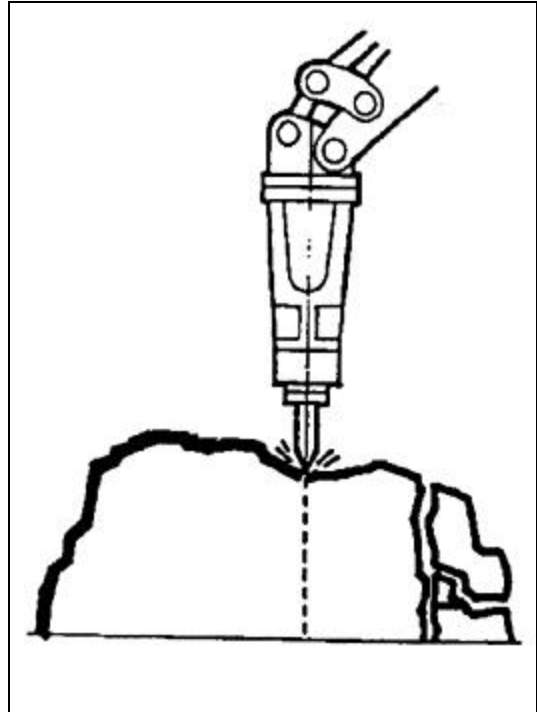

Figure 03-03: Maintain Hard Stable Working Surface
- f) For secondary demolition, before starting the hammer, adjust the material to be broken so that it is on a hard, stable surface. (Figure 03-03)